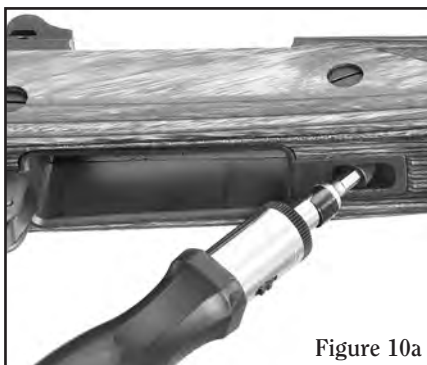

Figure 10a
- a. Loosen and remove the screw that holds the Front Mounting Lug. See Figures 10a & 10b.